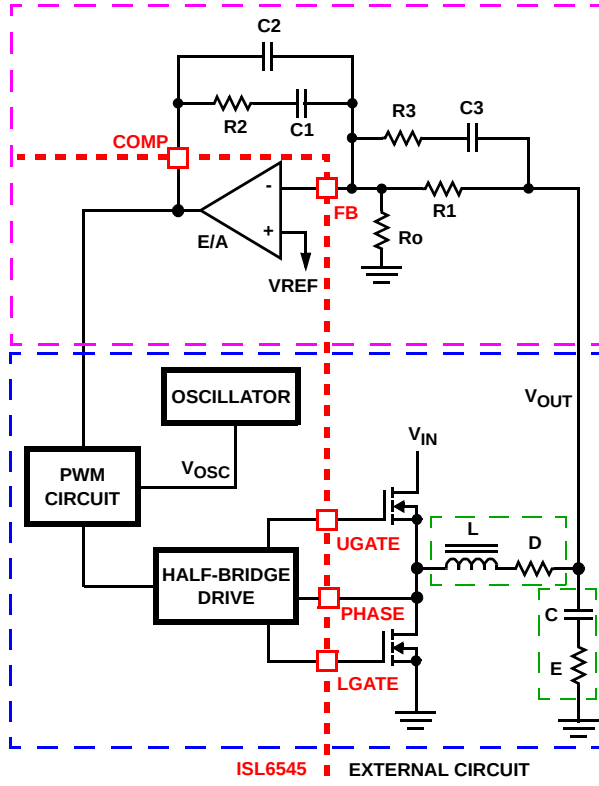

FIGURE 9. VOLTAGE-MODE BUCK CONVERTER COMPENSATION DESIGN
This section highlights the design consideration for a voltage-mode controller requiring external compensation. To address a broad range of applications, a type-3 feedback network is recommended, as shown in the top part of Figure 9.
Figure 9 also highlights the voltage-mode control loop for a synchronous-rectified buck converter, applicable to the ISL6545 circuit. The output voltage (V_{OUT}) is regulated to the reference voltage, V_{REF} . The error amplifier output (COMP pin voltage) is compared with the oscillator (OSC) modified sawtooth wave to provide a pulse-width modulated wave with an amplitude of V_{IN} at the PHASE node. The PWM wave is smoothed by the output filter (L and C). The output filter capacitor bank's equivalent series resistance is represented by the series resistor E.
The compensation network consists of the error amplifier (internal to the ISL6545) and the external R1-R3, C1-C3 components. The goal of the compensation network is to provide a closed loop transfer function with high 0dB crossing frequency (F_0 ; typically 0.1 to 0.3 of F_{SW}) and adequate phase margin (better than 45°). Phase margin is the difference between the closed loop phase at F_{0dB} and 180°. The equations that follow relate the compensation network's poles, zeros and gain to the components (R1, R2, R3, C1, C2, and C3) in Figure 9. Use the following guidelines for locating the poles and zeros of the compensation network:
4. Select a value for R1 (1kΩ to 5kΩ, typically). Calculate value for R2 for desired converter bandwidth (F_0). If setting the output voltage via an offset resistor connected to the FB pin, R_0 in Figure 9, the design procedure can be followed as presented.